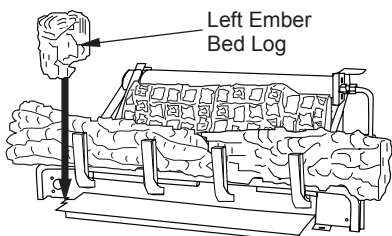

Figure 30 - Installing Left Ember Bed Log
- Place left ember bed log as shown in Figure 30. The log has groove on one side that sets on the ember bed pan. The back side of this log needs to rest against the front of the base assembly. Make sure the flame from the ember pan does not touch the ember bed log.